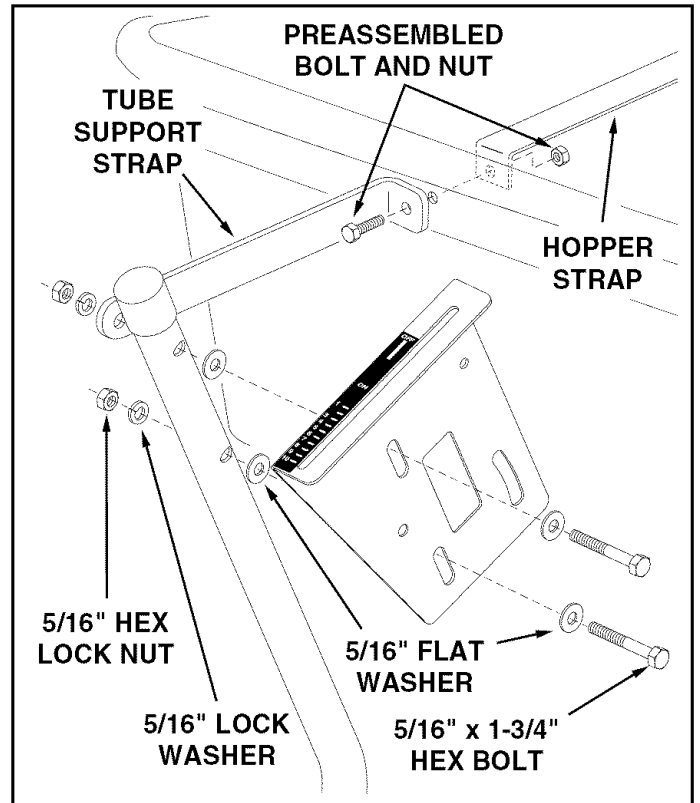

FIGURE 6
- Assemble the flow control mounting bracket and the tube support strap to the flow control mounting tube using two 5/16" x 1-3/4" hex bolts, four 5/16" washers, two 5/16" lock washers and two 5/16" hex lock nuts. **DO NOT TIGHTEN YET**. See figure 6.
- Remove the preassembled bolt and nut from the front of the hopper. Attach the tube support strap to the hopper and hopper strap using the bolt and nut you removed. **TIGHTEN**. See figure 6.